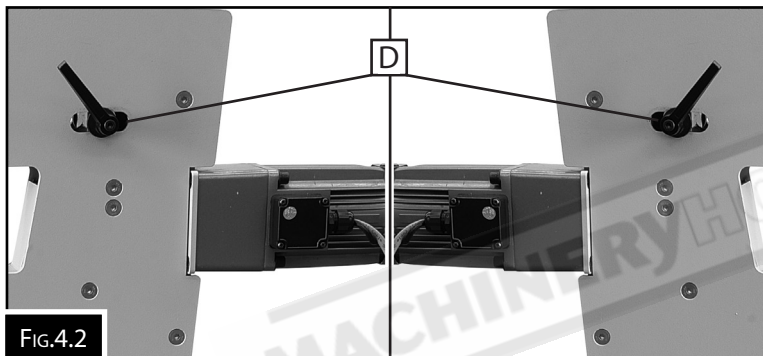

FIG.4.2
2. Loosen the upper mandrel lock levers ("D" in Fig. 4.2), and move the upper mandrel in or out until the upper mandrel die aligns with the lower mandrel die, then tighten the alignment clamps